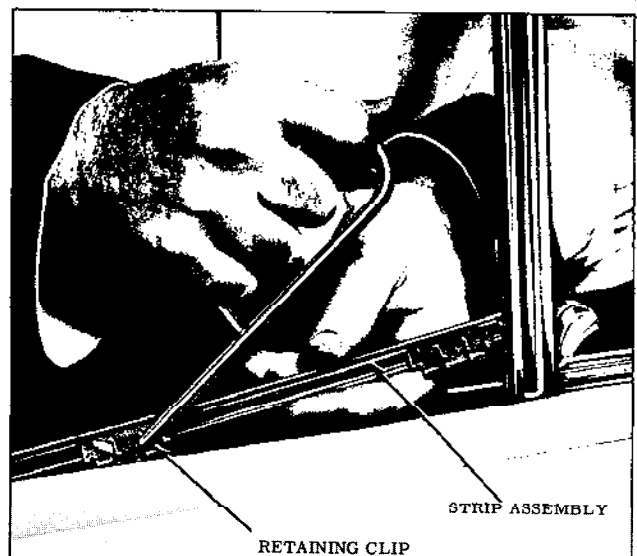

Fig. 15-13 Door Window Glass Run Channel Inner and Outer Strip Assemblies (Outer Strip Shown - Inner Typical)
3. With a hooked tool, carefully lift up strip assembly at clip locations and remove from door. (Fig. 15-13)